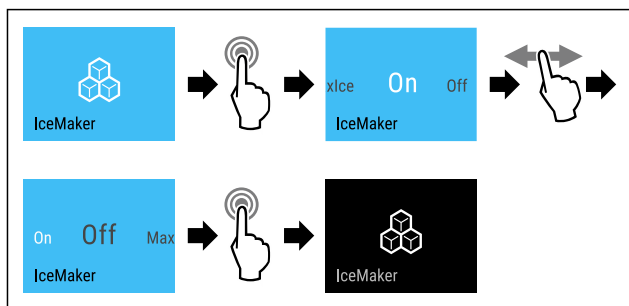

Fig. 19 Example illustration of the active IceMaker function
- ▶ Complete the steps (see Fig. 19) .